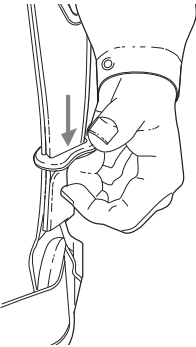

Fig. 19 Securing the strap ends
- Pull the strap retainers down to secure the strap ends (Fig. 19).